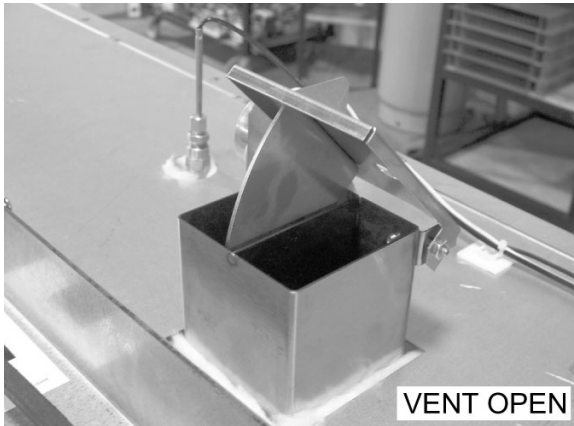
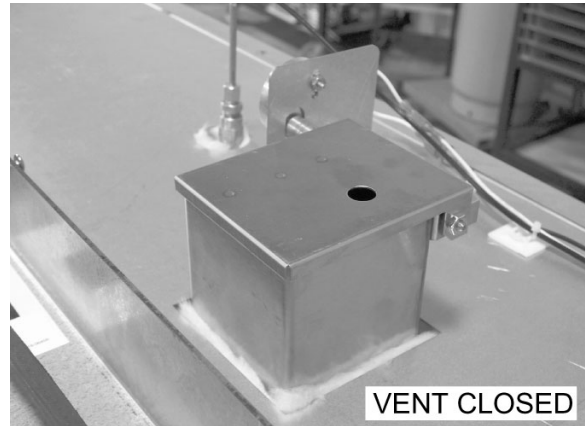

Fig. 11
Fig. 12
- B. Visually check that vent opens (Fig. 11) and closes (Fig. 12) when button is pushed. If vent does not operate, contact your authorized Bakery Systems service agency for service.